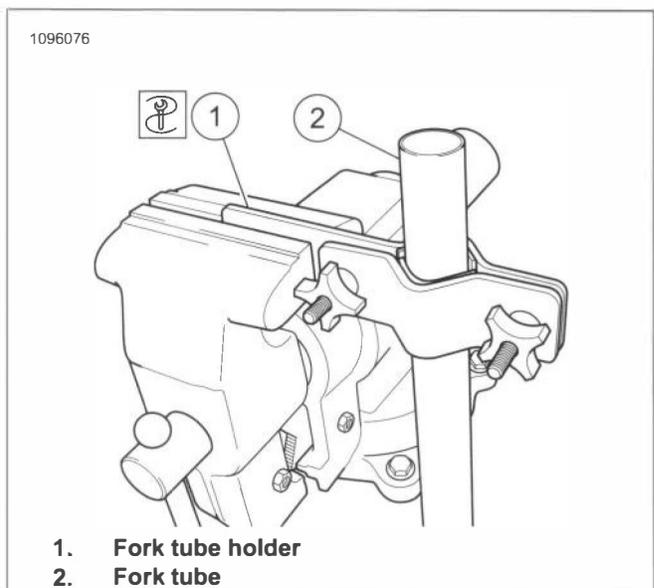

Figure 3-59. Fork Tube Holder
1. See Figure 3-59. Clamp fork tube in fork tube holder. Mount in vise with fork vertical.